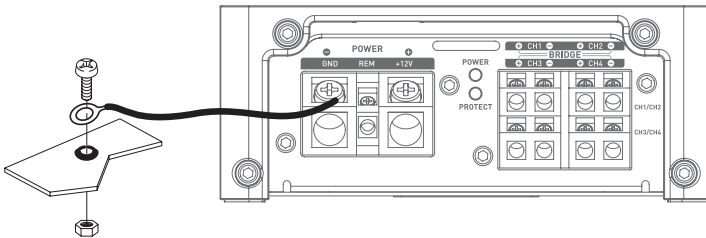

fig. 2
- 10 - Prepare the chassis ground (earth) by removing all traces of paint from the metal surface, thus ensuring a good ground (earth) contact. Ground (earth) connections should be as short as possible and **ALWAYS** connected to metal welded to the vehicle bodywork or chassis (**Fig. 2**). The grounding (earthing) point usually chosen is the one used to connect the negative terminal of the battery to the vehicle chassis.
**3.3.2** – Locate the negative (-) power cable. This cable should be as short as possible and ideally should not exceed 1 meter in length, in order to ensure an optimal connection between the amplifier and the vehicle chassis. The cable and its gauge must be in accordance with the table in 3.1. Locate an appropriate ground (earth) point, then sand it to remove all traces of paint or other finish, thus optimising the quality of the connection. Drill through the sheet metal you have previously sanded, making a hole to match the bolt you have chosen, ensuring you are well clear of all cable routes, reservoirs or tanks or other sensitive vehicle parts. Solder and insulate (using heat shrink sleeving) the earth cable to the FPX amplifier earth connector supplied (*Fig. 2*).